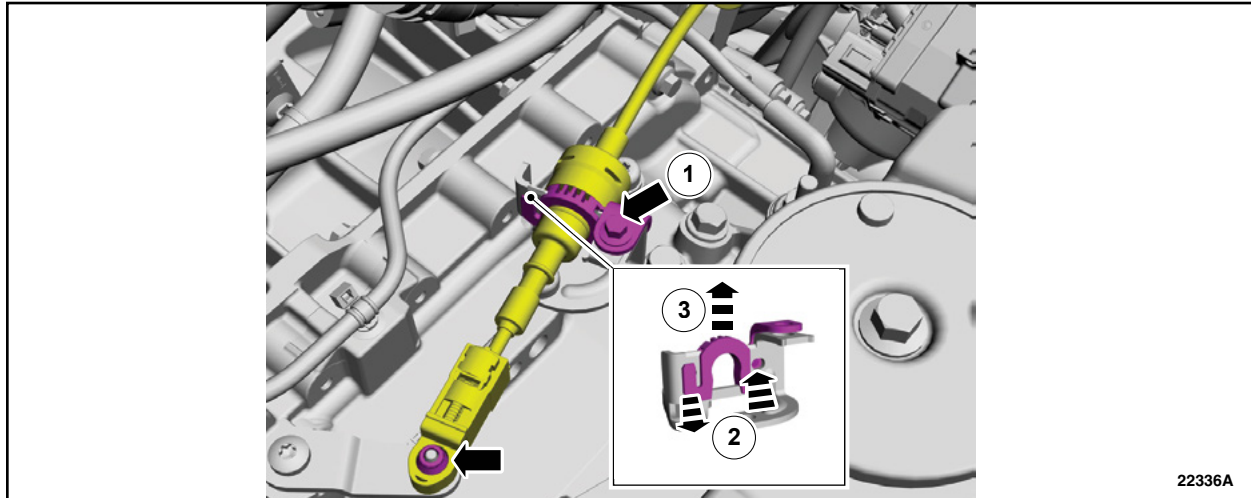

FIGURE 4
8. Disconnect the selector lever cable from the transmission manual lever and the bracket. See Figure 4.